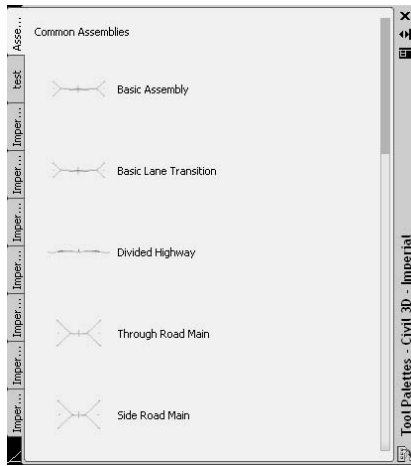

Figure 10.1
catalog also includes parts for rehabilitation projects, superelevation, and channels, among other options. These parts come preloaded onto several Tool palettes so that they are at your fingertips when you begin building your model. In addition to the smaller components, called *subassemblies*, there are several prebuilt standard assemblies for basic roads, divided highways, intersections, and roundabouts (see Figure 10.1).
3. On the Tool palettes, switch to the **Assemblies - Imperial Tool Palette**, as shown in Figure 10.1.